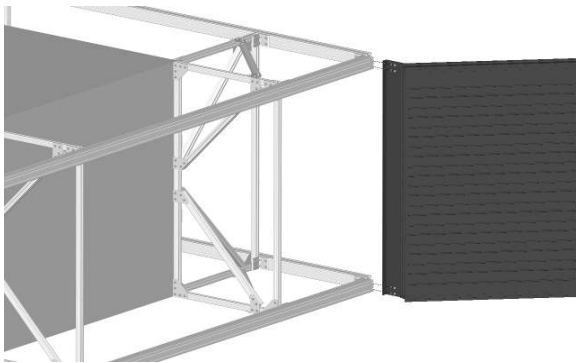

Figure 3-A
3. Start at the hinge end of one rail (see Figure 3-A). If you are mounting a right hinge panel, start at the right end. If you are mounting a left hinge panel, start at the left end.